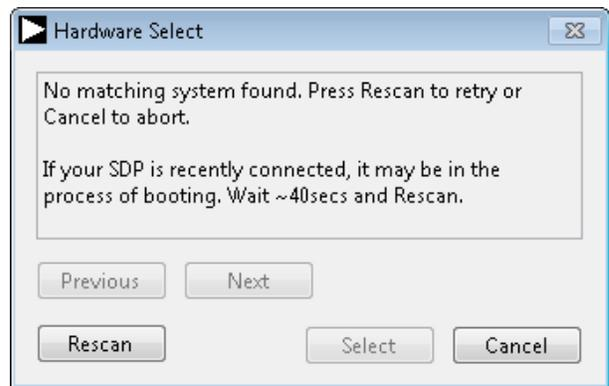

Figure 15. SDP-H1 Board Not Connected to the USB Port Error
2. The software automatically seeks to find the hardware connected; therefore, when no hardware is connected, it displays a connectivity error (see Figure 15) when the software is launched. Connect the evaluation board to the **SDP-H1** and connect the **SDP-H1** to the USB port of the PC, wait a few seconds, click **Rescan**, and then follow the instructions.